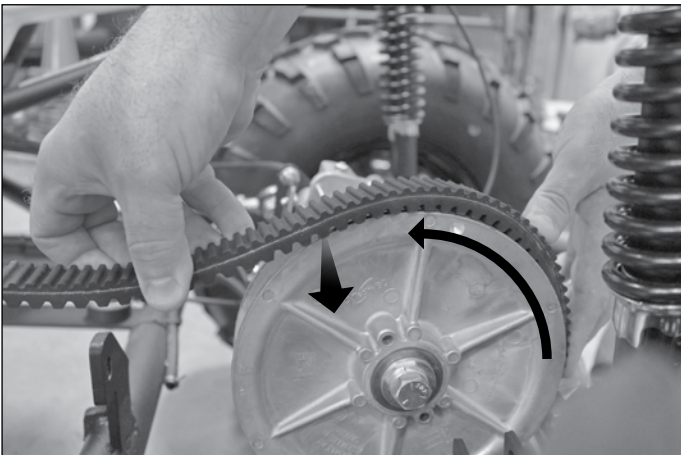

figure 4.3 (removing the exposed drive belt)
3. "Walk" the belt off of the rear pulley as shown in figure 4.3.